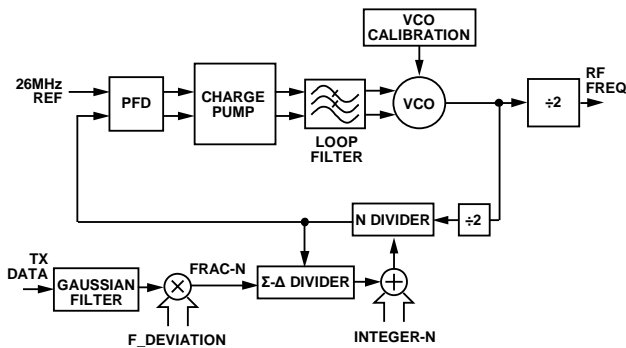

Figure 79. RF Frequency Synthesizer Architecture
A fully integrated RF frequency synthesizer is used to generate both the transmit signal and the receiver's local oscillator (LO) signal. The architecture of the frequency synthesizer is shown in Figure 79.